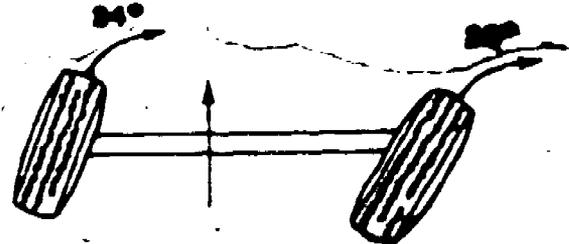

Figure 4
- 29. Figure 4 shows _____ steering geometry.